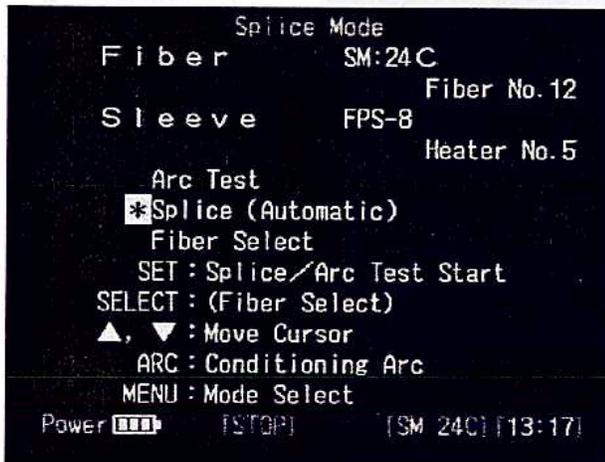

Figure 12. Editing Numeric Values
1. As shown in Figure 12, the highlighted block indicates the active digit.